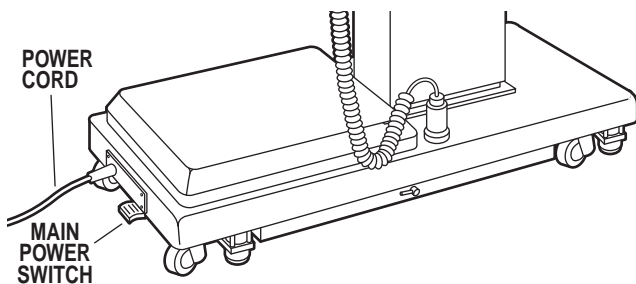

Figure 2-1. Main Power Switch
- b. Depress Main Power ON/OFF switch on the electrical enclosure. See figure 2-1. The green Power ON indicator light on the pendant control unit should now be illuminated.